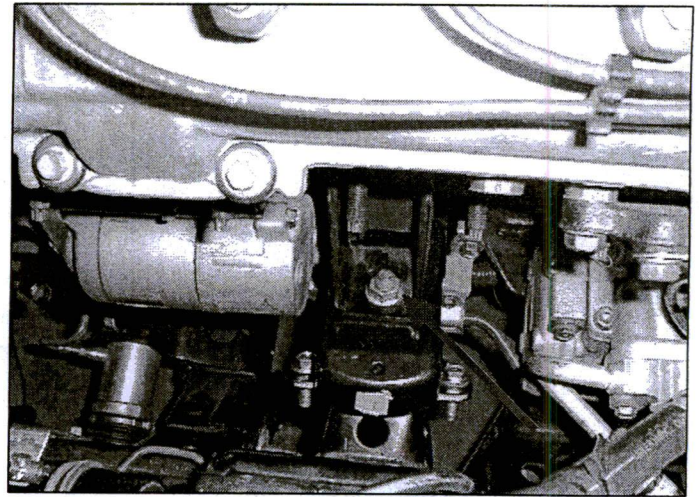

Figure 12
11. Remove the nut from the right side engine mount (Figure 12).
NOTE: Do not raise the engine so much that the engine mount comes off of the stud indicated in Figure 12. The engine will become misaligned and the threads will be ruined.